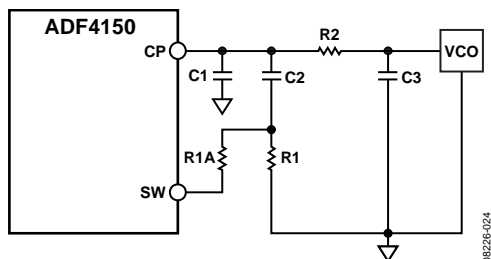

Figure 28. Fast Lock Loop Filter Topology—Topology 2
- An extra resistor (R1A) is connected directly from SW, as shown in Figure 28. The extra resistor is calculated such that the parallel combination of an extra resistor and the damping resistor (R1) is reduced to $\frac{1}{4}$ of the original value of R1 (see Figure 28).